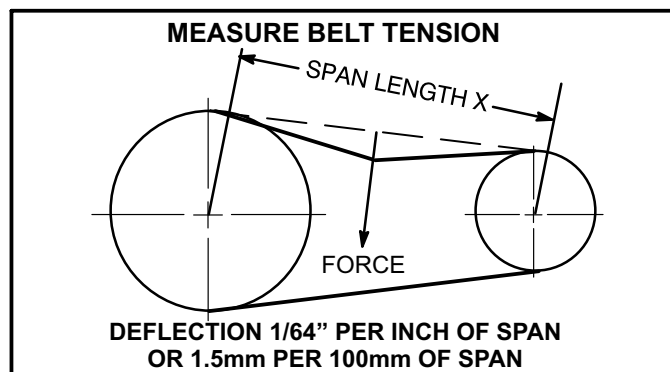

FIGURE 9
- 1- Measure span length X. See figure 9.
- 2- Apply perpendicular force to center of span (X) with enough pressure to deflect belt 1/64" for every inch of span length or 1.5mm per 100mm of span length.